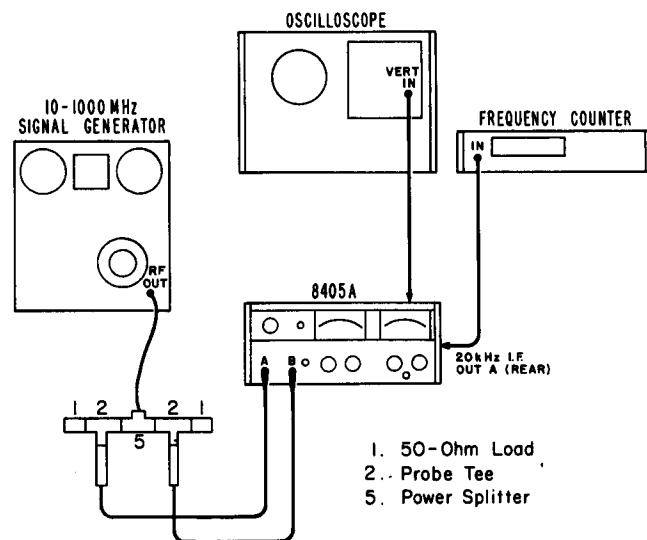

Figure 2H. Setup for Search Speed Adjustment
- a. Connect test equipment as shown in Figure 2H.